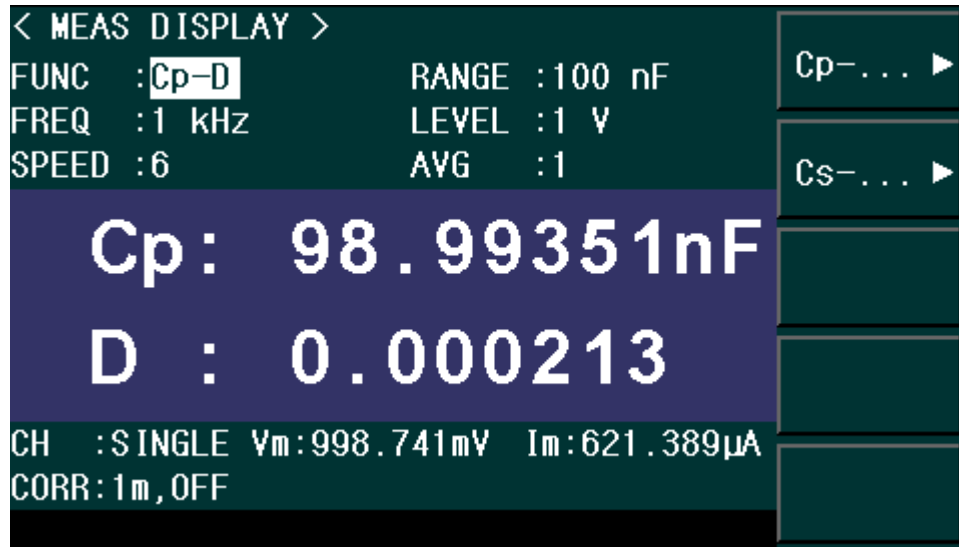

Figure 3-1 Primary parameter selection menu screen
Step 2: Move the cursor key to the FUNC zone (as shown in Figure 3-1).